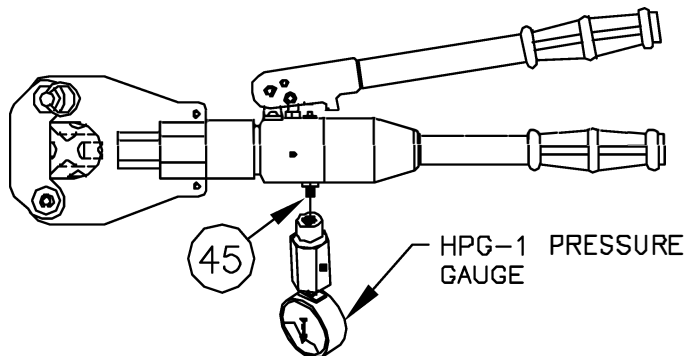

FIGURE 10
2. Screw the HPG-1 Gauge onto the gauge adapter 45 located on the bottom side of the pump (see Figure 10).